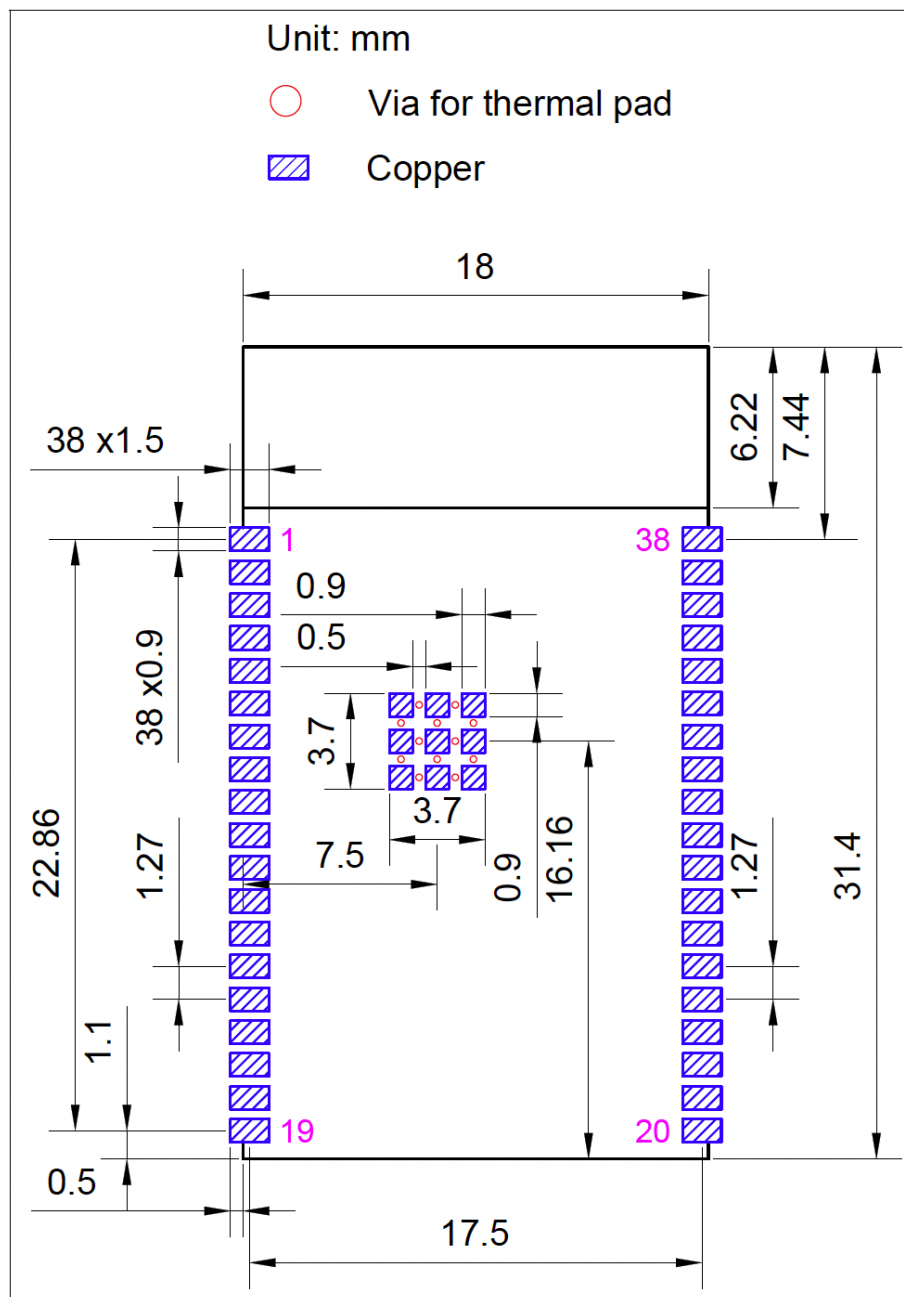

Figure 5: Recommended PCB Land Pattern
- Figures for recommended PCB land patterns with all the dimensions needed for PCB design. See *Figure 5 Recommended PCB Land Pattern*.
- Source files of recommended PCB land patterns to measure dimensions not covered in *Figure 5*. You can view the source files for IQAir with Autodesk Viewer.